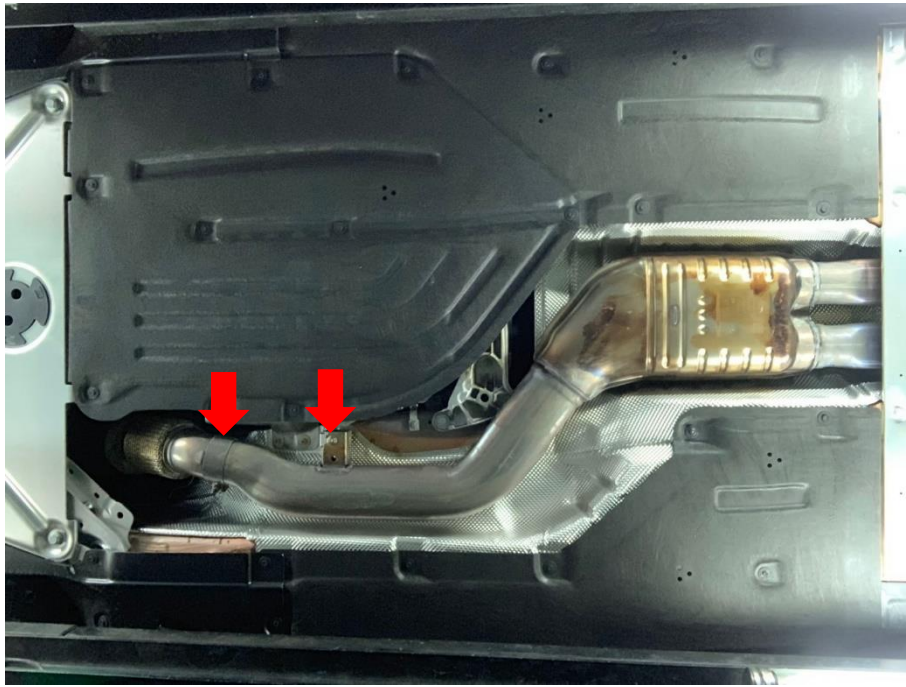

Fig. 1
1. Remove the front pipe clamps and bushes screws. (Fig1)